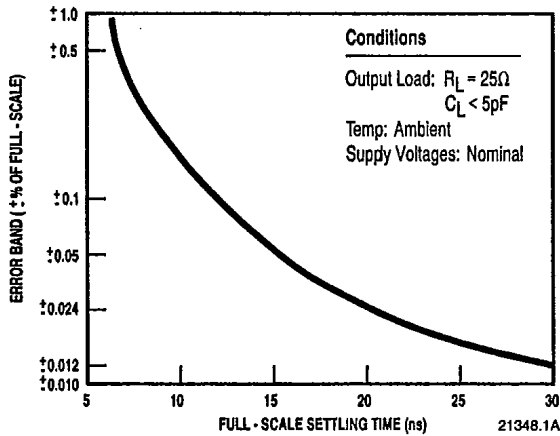

Figure 6. Typical Supply Current vs. Temperature
2. See the Typical Supply Current vs. Temperature graph (Figure 6) for typical values.